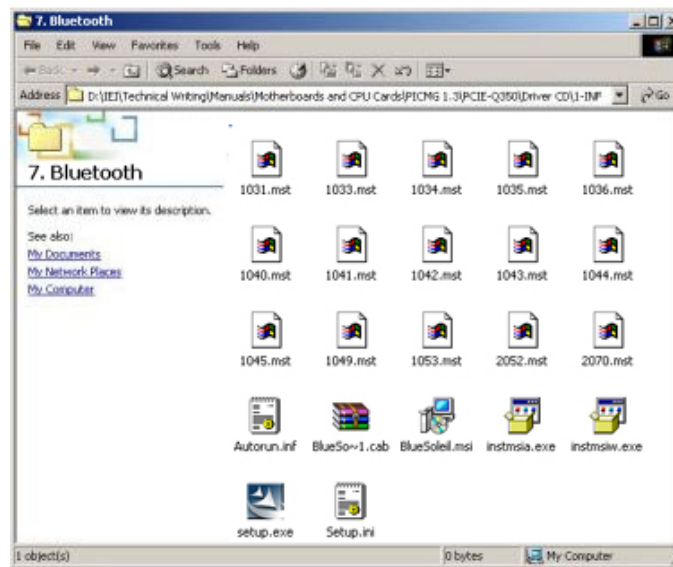

Figure 7-46: Bluetooth Driver Icon
Step 9: A new window opens (Figure 7-46). Click the **Setup.exe** to install the touch screen driver.